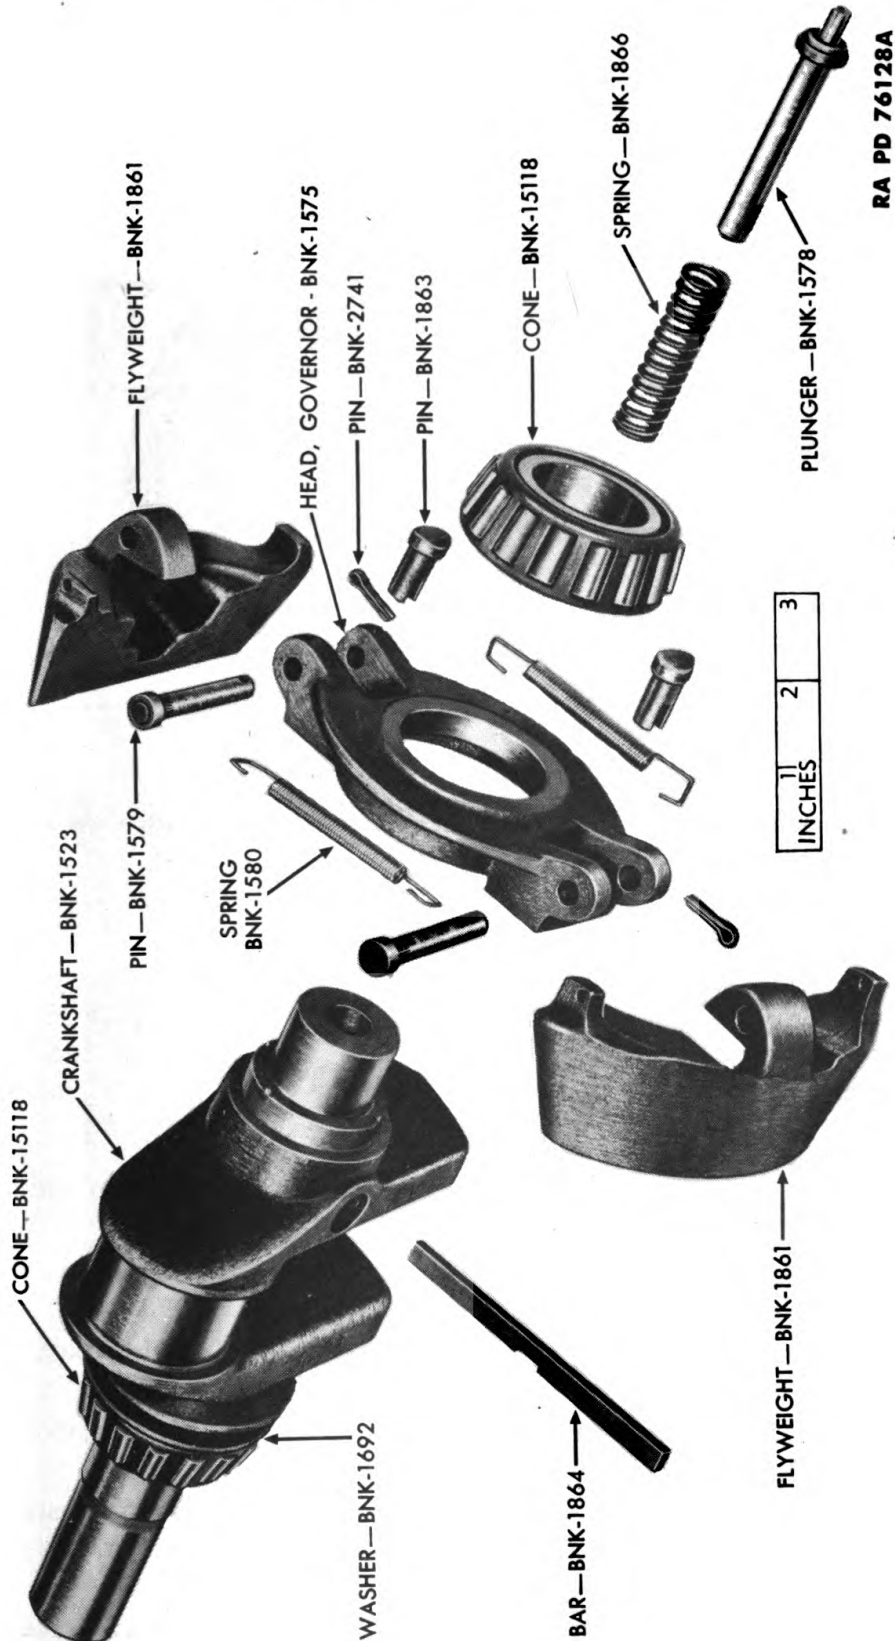
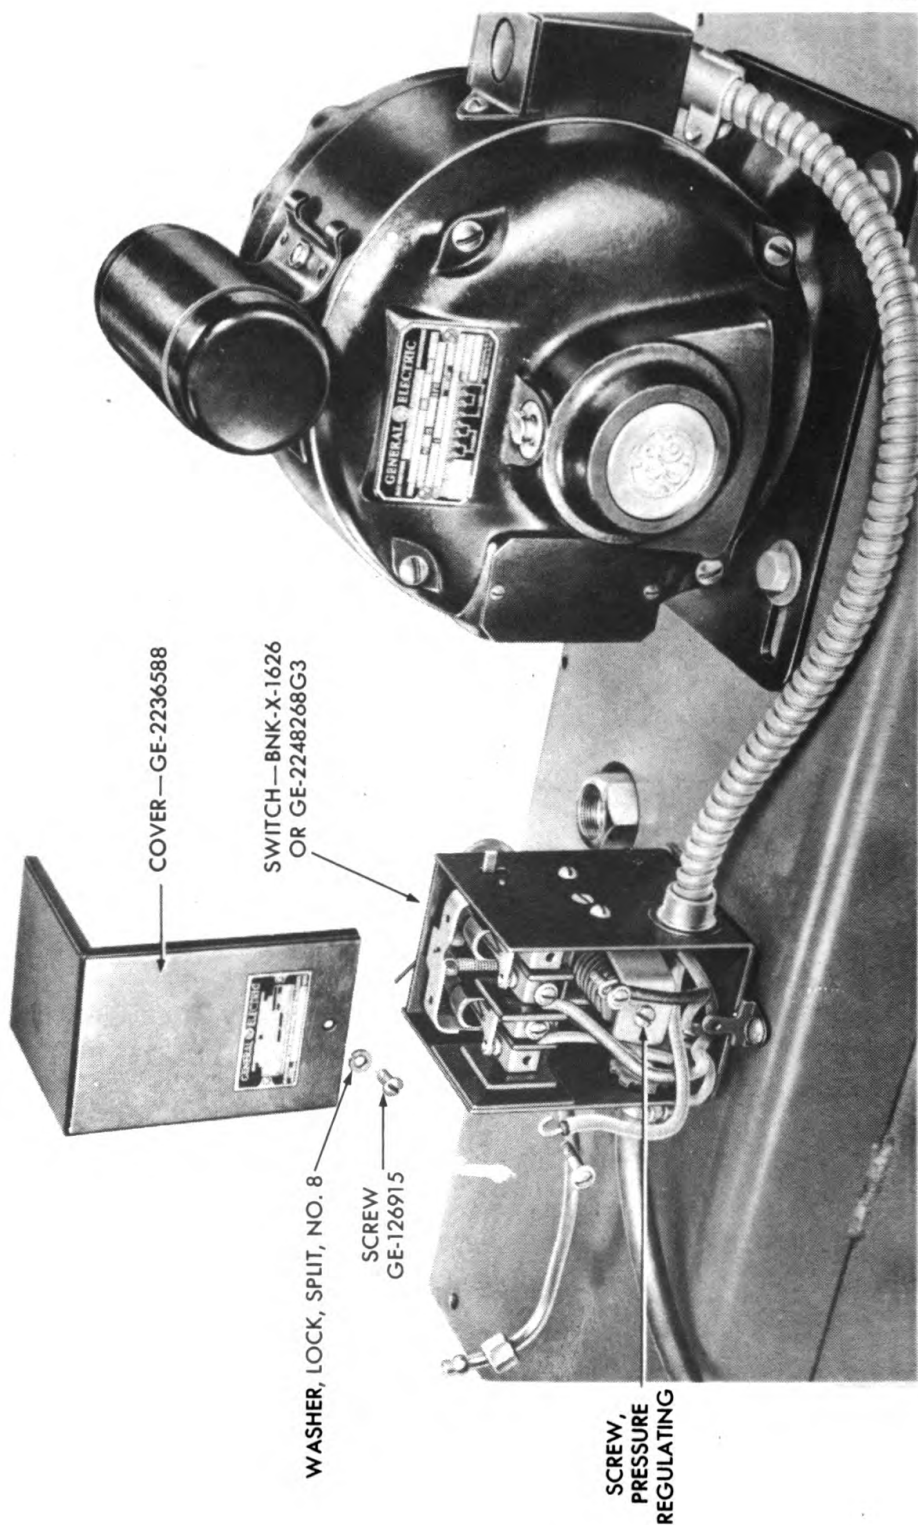

Figure 135 — Air Compressor Crankshaft With Bearing Cone and Centrifugal Governor Removed
Figure 136 — Removal of Cover From Automatic Cut-off Switch of Air Compressor
• (13) Slide the bearing cones from the crankshaft as shown in figure 135.
(14) The centrifugal governor is removed and disassembled as shown in figure 135. Remove the cotter pins and the springs from the pins.
(15) Drive out the pins BNK-1579 and then remove the pins BNK-1863.
(16) Push the plunger toward the crankshaft and pull out the bar to complete the disassembly.
(17) Remove the screw and lock washer to remove the automatic cut-off switch cover (fig. 136) from the switch.